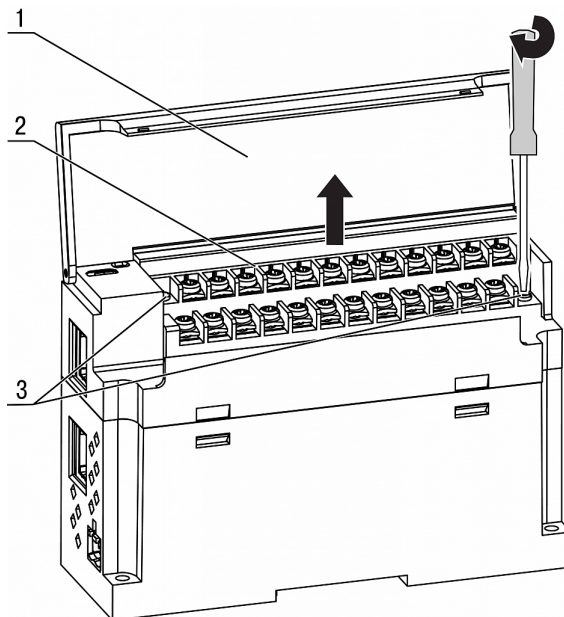

Fig. 7.1 Remove terminal block
5. Remove the terminal block 2 as shown in *Figure 7.1*.